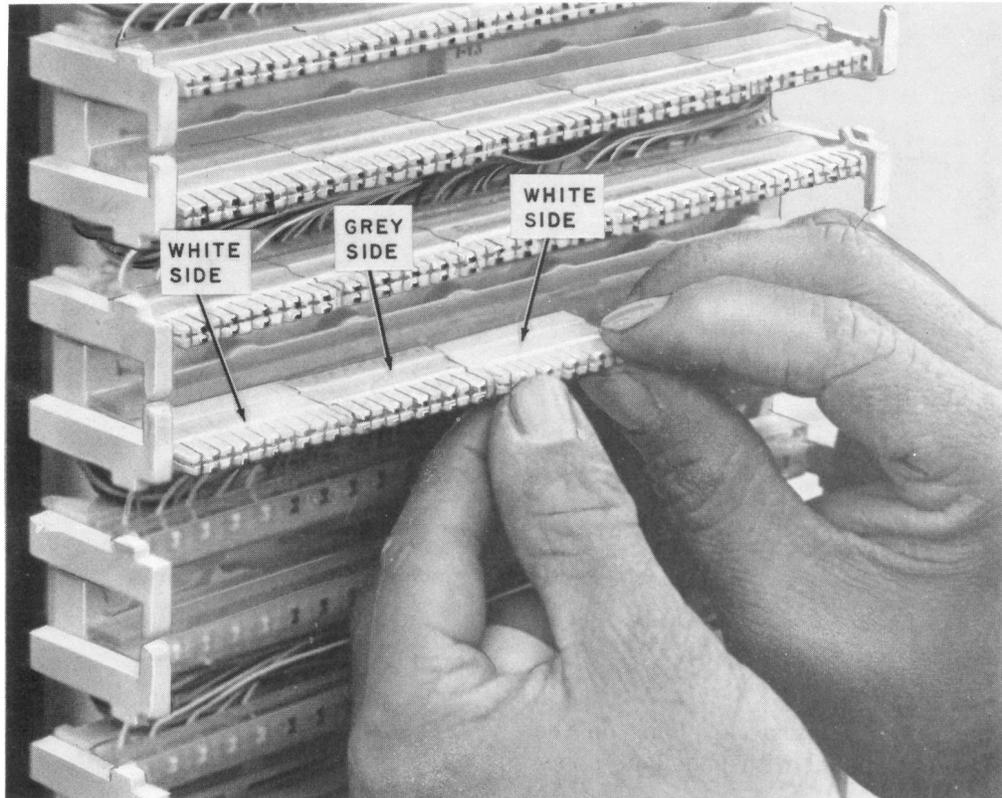
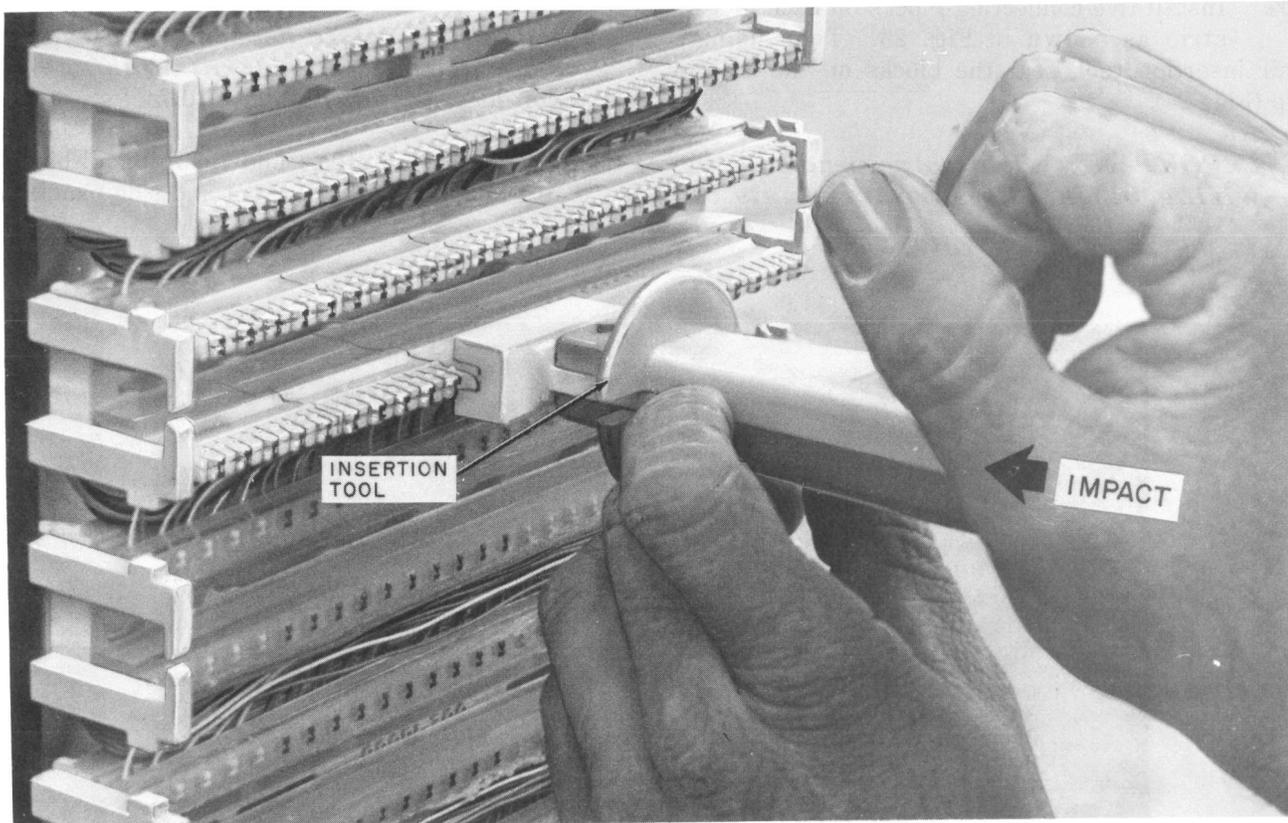

Fig. 23—Placing Connecting Block on Index Strip
Fig. 24—Seating Connecting Block
10.02 Install five connecting blocks on each index strip as shown in Fig. 23. Then using 5-pair insertion tool, seat the blocks on the index strip (Fig. 24).